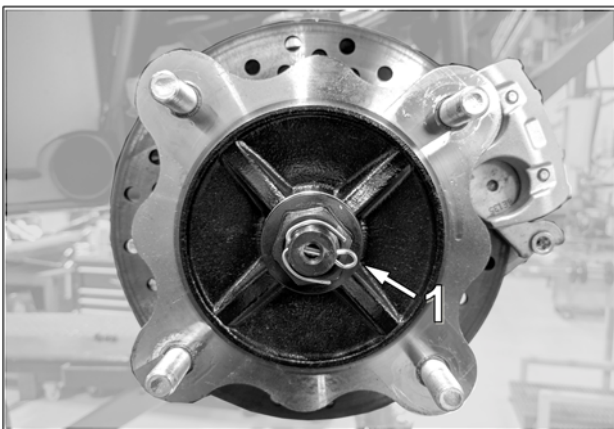

Fig. 17
**CAUTION:** Make sure that the wheel hub's castle nut cotter pin (1) does not interfere with the track system hub. See Fig. 17